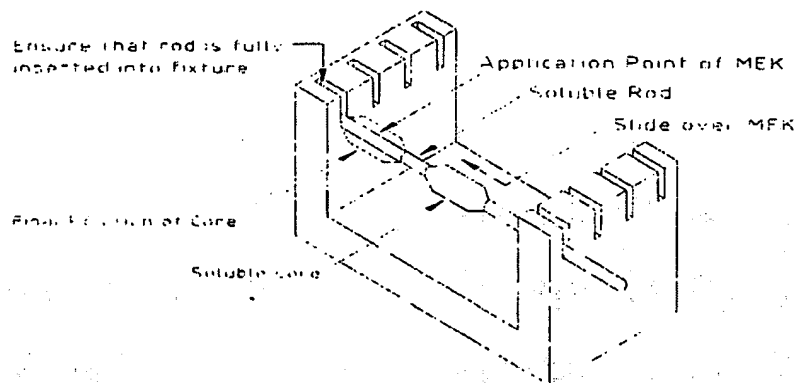

Fig. 1.0 Core Assembly Fixture
- 6.2 Insert the rod into the core and place into the core assembly fixture as shown in fig. 1.0.
- 6.3 Ensure that the soluble rod is fully inserted into the fixture (ref. fig. 1.0)
- 6.4 Position the core so that it is approximately in the centre of the rod (ref. fig. 1.0)
- 6.5 Dampen the end of a swab with MEK and wipe it around the rod approximately 1cm from the wall of the fixture (ref. fig. 1.0)
- 6.6 Slide the core along the rod as illustrated in fig 1.0. Ensure that the core is flush with the wall of the fixture and that the rod is still fully inserted into the fixture. Repeat this for the ten cores in the fixture.